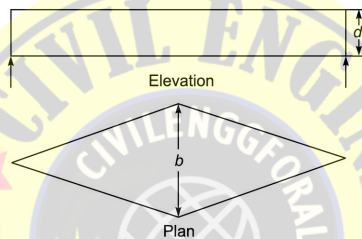

Fig. 5.3 Beam of uniform strength for S.S. beam subject to concentrated load of centre
- * For a concentrated load on simply supported beam a beam of uniform strength of constant depth is as shown in Fig. 5.3.